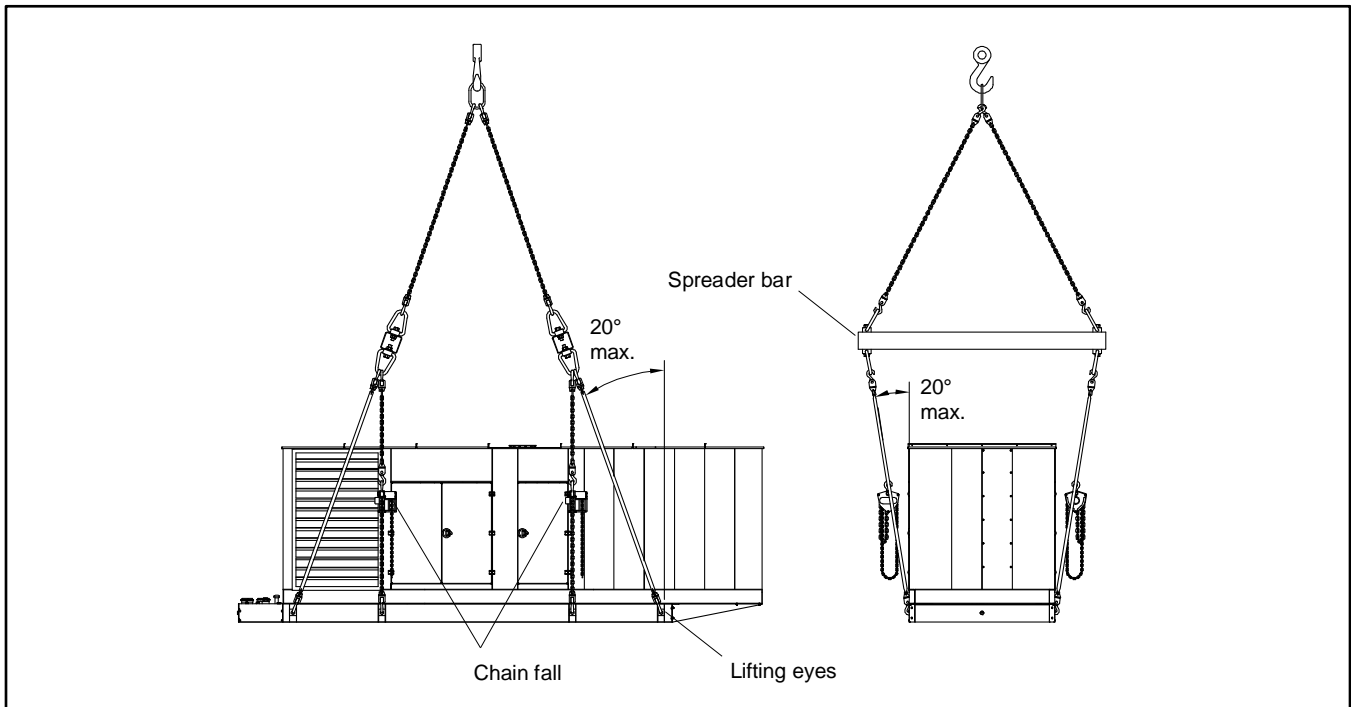

Figure 11 Eight Eyes, Two Spreader Bars, and Four Chain Falls Lifting Method
- Apply two spreader bars and four chain falls (Figure 11) for eight eye lifting.
- Install a pair of outer slings up to the maximum angle as shown in Figure 11.